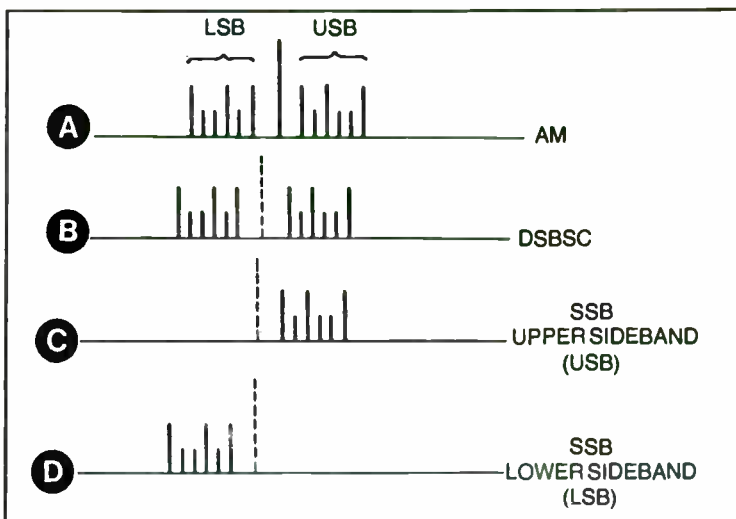

Fig. 14-1. AM, DSB, USB, and LSB spectrum.
In Chapter 13 we considered amplitude modulation (AM). SSB and DSB are merely specialized forms of AM. Consider Fig. 14-1.